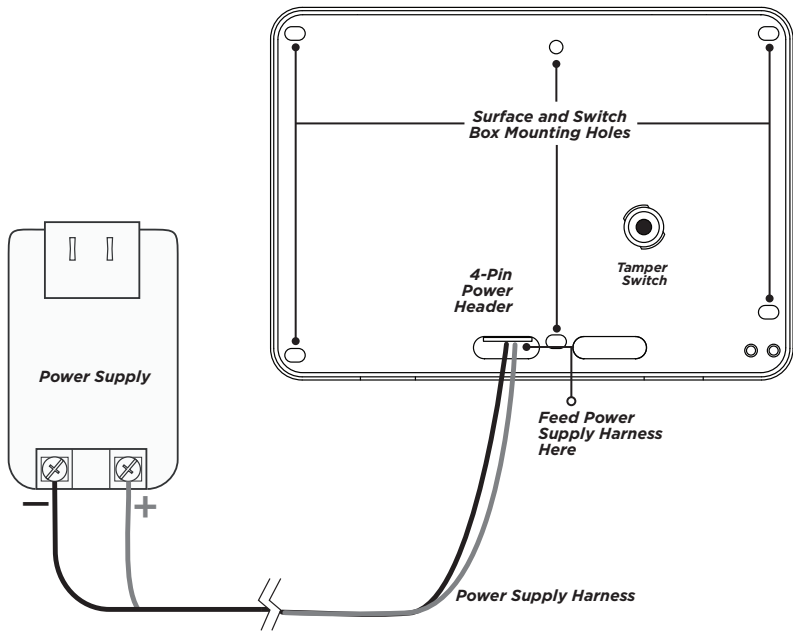

Figure 1: Install the 9862 Keypad
3. Feed the power supply harness through the case. See Figure 1.